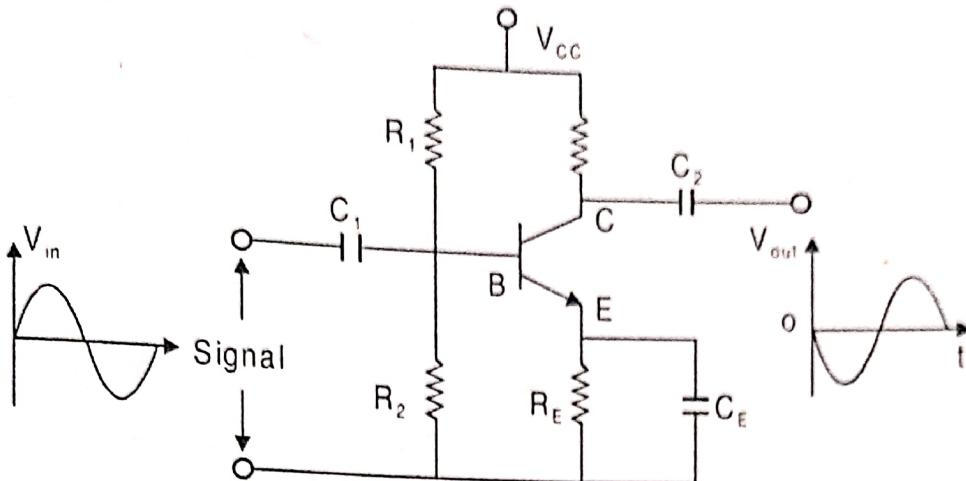

Fig. 7.35
- (1) In common emitter connection when the input signal voltage increases in the positive sense, the output voltage increases in the negative direction and vice versa.
- (2) There is a phase difference of 180° between the input and output voltage in CE connection.
- (3) The total output voltage V_{CE} is given by, (from Fig. 7.35)